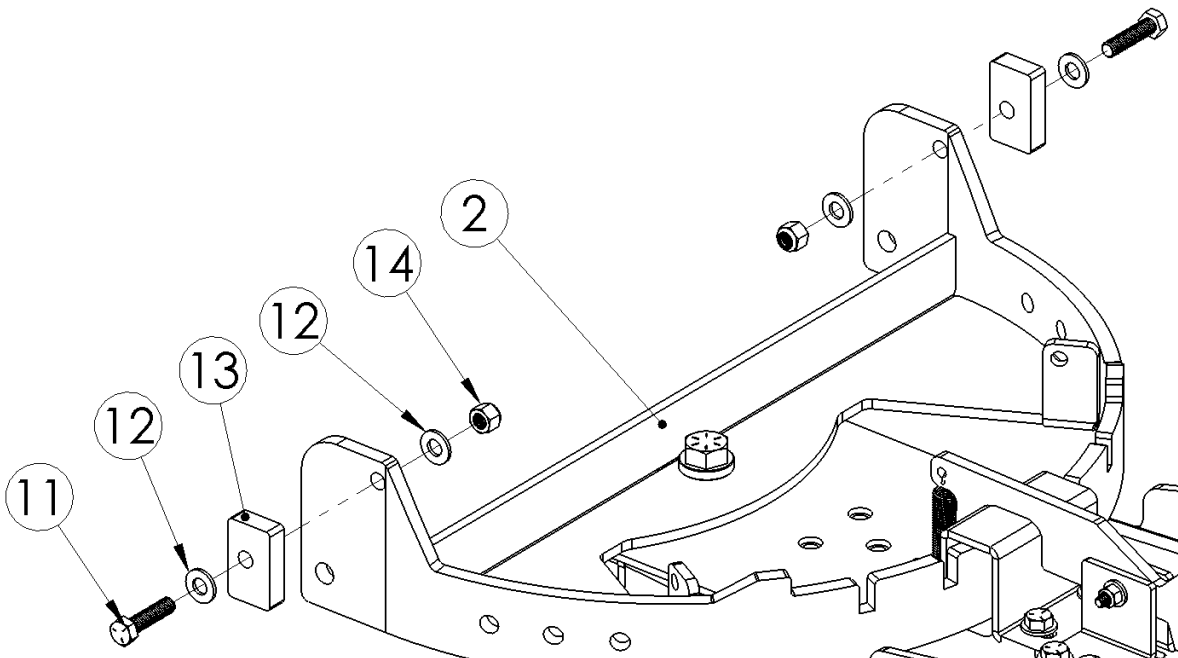

Figure 10
- 6) Install the Stop Blocks using the 3/8" x 1.5" Hex Bolts, 3/8" Flat Washers, and 3/8" Nylock Nuts. **Note** that the hole in the Stop Block is a different distance from each of the four edges of the Stop Block. By adjusting which of the four faces is pointed forward the plow blades resting position can be changed. Begin with the shortest distance facing forward and adjust if necessary. See Figure 10.